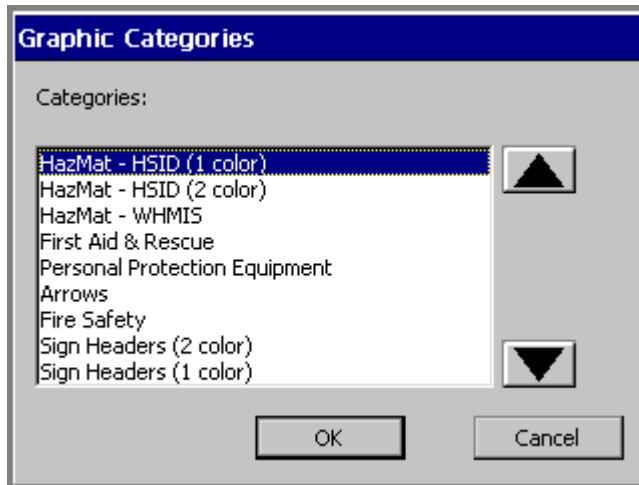

Figure 7-12. The Graphic Categories screen.
1. Choose **Change Category** on the **Graphics** screen. You'll see the **Graphic Categories** screen (Figure 7-12 on page 7-22) again, which lists all categories offered in your system.